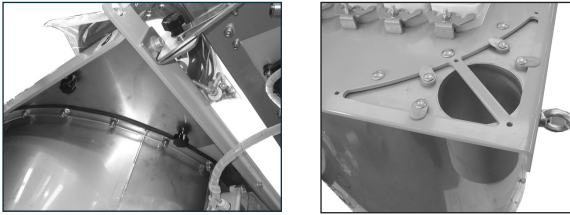

Fig. 1
- 2) Fix the blind flanges in the rear slits and the two flanges with tube in the front part of the filter. (See Fig. 1).